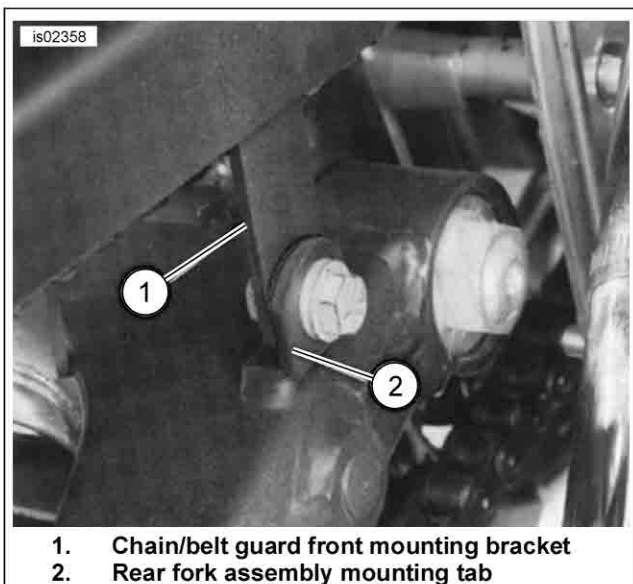

Figure 2. Guard Installation
- See Figure 2. On all models, install chain/belt guard (1) to rear fork assembly (2) such that front mounting bracket of chain/belt guard is positioned against inboard side of front mounting tab on rear fork assembly. Insert hex head bolt with flat washer (both supplied in this kit) through holes in front mounting tab on rear fork assembly and front mounting bracket of chain/belt guard. Install locknut (from kit) on end of bolt; tighten locknut to 19 ft-lbs.